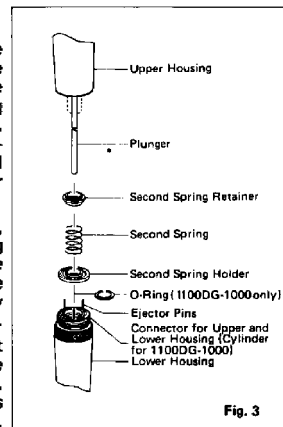

Fig. 3
A. Barrel Portion (Fig. 3)
3. If the mechanical parts come out of the upper housing, replace them in accordance with Fig. 3. Make sure that the ejector pins do not touch the second spring.